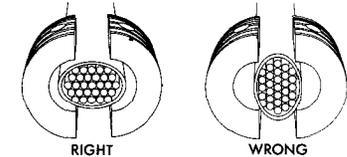

Figure 24 — Shaping Cable
9.05 Before applying end plates, oval cable slightly to prevent pinching sheath and apply end plates over oval as shown in Figure 24. Do not overshape lead cable.